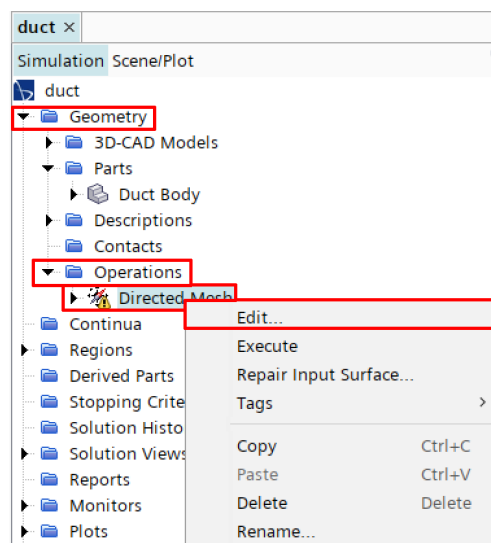

Figure 21: Process of opening the mesh editor.
3. Right click on **Geometry** → **Operations** → **Directed Mesh** and select **Edit...**. This process is shown in Figure 21. The **Directed Mesh** window will open in the *Explorer Pane*.